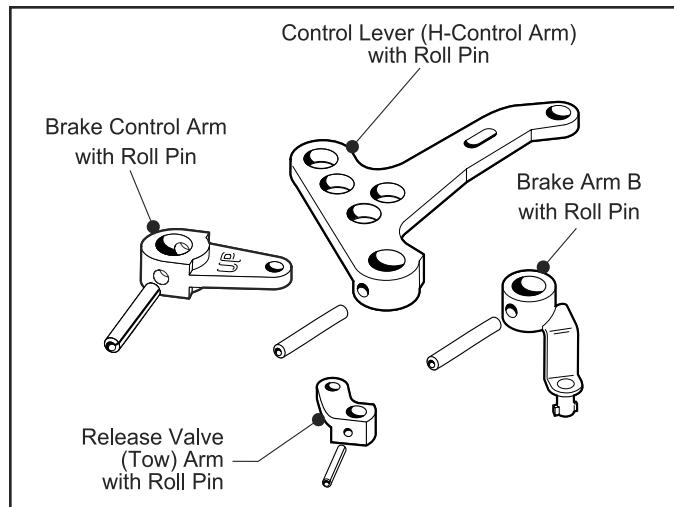

Fig. 4, Arms and Roll Pins
2. Remove the Roll Pin and the H-Control Arm from the Control Shaft. (*Fig. 4*)
3. Remove the Roll Pin and the Brake Arm from the Brake Shaft. (*Fig. 4*)
4. Remove the Roll Pin and Brake Arm "B" from Brake Arm "A". (*Fig. 4*)
5. Remove the Roll Pin and the (Tow) Release Valve Arm from the Bypass Shaft. (*Fig. 4*)